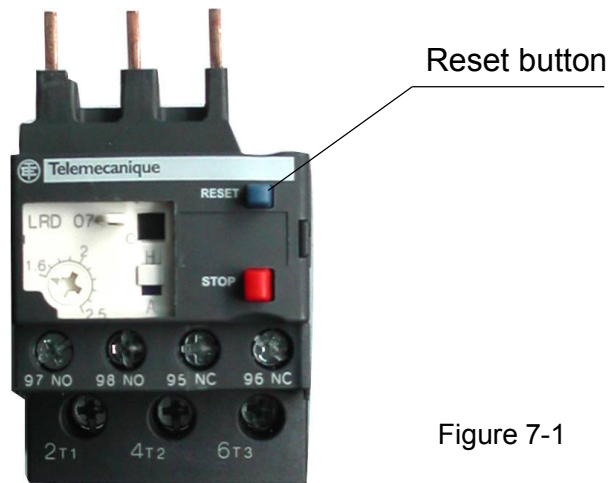

Figure 7-1
9. If the drive motor is protected as overload or high temperature, please assure the reason of protection at first. When solve a problem, then press the reset button (blue color button) in the thermal overload relay shown in Figure 7-1. The thermal overload relays are located sides of mix compressor.